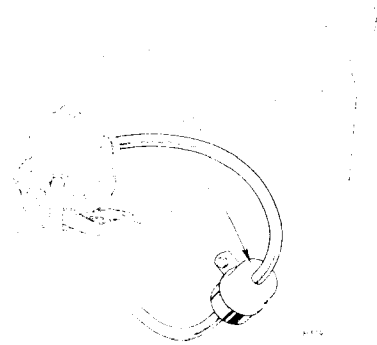

Fig. 6. Showing position of 'inline' fuel filter
3. At 12,000 Mile Intervals (Fig. 6)